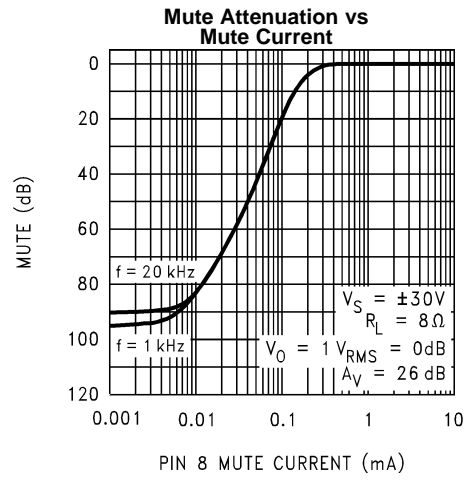
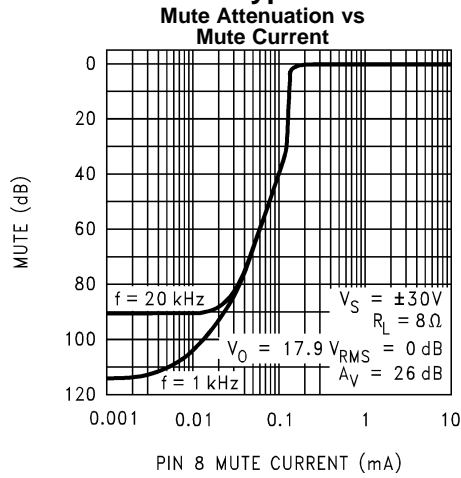

Figure 44.
Figure 45.
12. R_M	Mute resistance set up to allow 0.5 mA to be drawn from pin 8 to turn the muting function off. → R_M is calculated using: $R_M \leq (V_{EE} - 2.6V)/I_8$ where $I_8 \geq 0.5$ mA. Refer to the Figure 44 and Figure 45 in Typical Performance Characteristics .
Mute Function: The muting function of the LM3886 allows the user to mute the music going into the amplifier by drawing less than 0.5 mA out of pin 8 of the device. This is accomplished as shown in the Typical Application Circuit where the resistor R_M is chosen with reference to your negative supply voltage and is used in conjunction with a switch. The switch (when opened) cuts off the current flow from pin 8 to V^- , thus placing the LM3886 into mute mode. Refer to Figure 44 and Figure 45 in Typical Performance Characteristics for values of attenuation per current out of pin 8. The resistance R_M is calculated by the following equation: